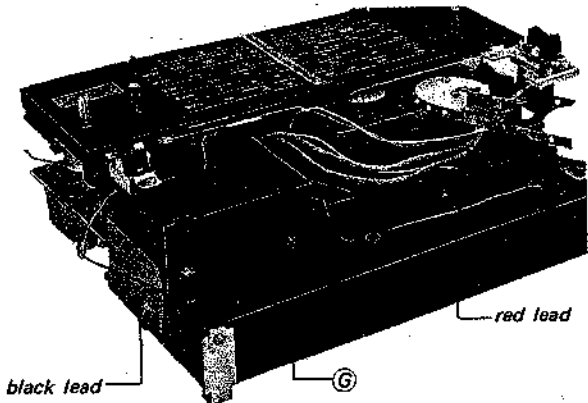

Fig. 2-10 Power circuit board removal, steps 2 and 3
2. Unsolder a black lead and a red lead as shown in Fig. 2-10.
3. Remove the two screws labeled **(G)** in Fig. 2-10.